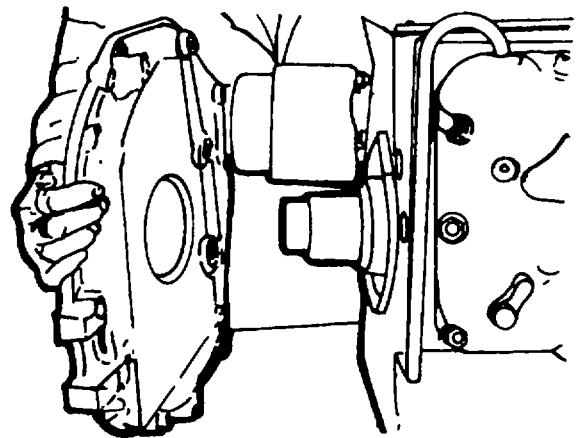

Figure 5-57. Install the Flange Mounting Plate
6. Install the flange mounting plate (figure 5-57).